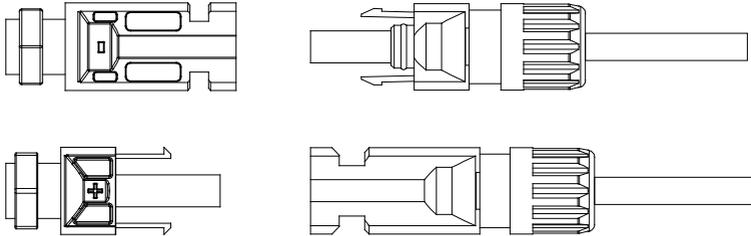

Figure 4-7 Connecting DC input power cables
- 7. Insert the positive and negative connectors into corresponding DC input terminals of the inverter until you hear a “click” sound, as shown in Figure 4-7.